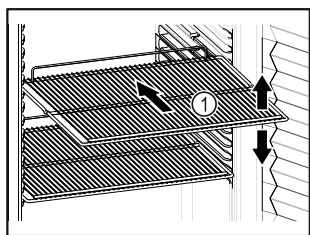

Fig. 62 Example illustration
- If there are adjustable shelves Fig. 62 (1), position them as required.